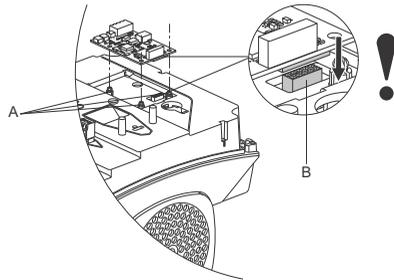

Fig. 76 Fitting the CIM module
4. Fit the CIM module by aligning it with the three plastic holders (fig. 76, A) and the connecting plug (fig. 76, B). Press home the module using your fingers.